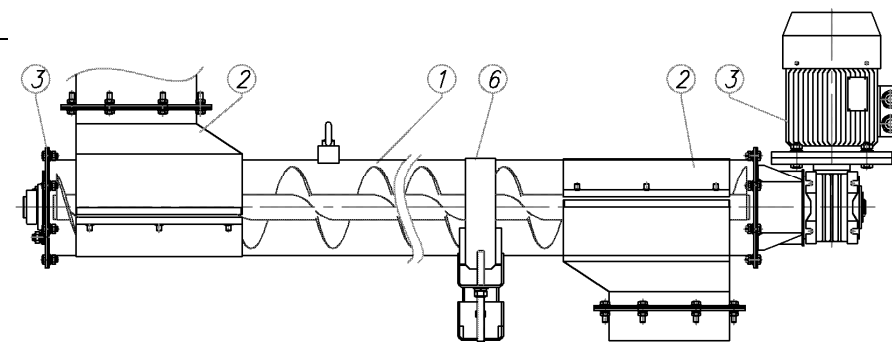

Fig.30 PS160-basic version
- a) The simplest complete construction made up of the elements of the PS160 system (Fig. 30) consists of: the drive 3 - PS160-N1.5/400 or PS160-N3.0/400, the screw conveyor 1 - PS160-P1.0 or PS160-P1.5 or PS160-P2.0 or PS160-P2.5 or PS160-P3.0, inlet/outlet 2 – PSU160-I/O-200 (2pcs.) and the mounting MOCRUR200 quantity adjusted for the conditions i and the length of the conveyor (preserving the rule of mounting the conveyor once every 3m).